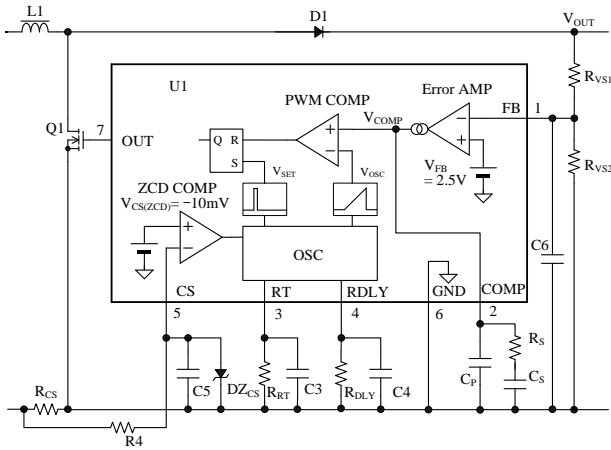

Figure 9-1 The IC peripheral circuit.
Figure 9-1 shows the IC peripheral circuit.
$R_{DLY}$  shown in Figure 9-1 is for the adjustment of the turn-on delay time,  $t_{DLY}$ , of the Power MOSFET. As shown in Section 8.5 Zero Current Detection, adjust the value of  $R_{DLY}$  and turn-on timing to the bottom point of  $V_{DS}$  free oscillation waveform on actual operation in the application. The range of  $R_{DLY}$  is 15 k $\Omega$  to 56 k $\Omega$ .
$R_{CS}$  shown in Figure 9-1 is current sensing resistor.  $R_{CS}$  is calculated by the following Equation (7), where Overcurrent Protection Threshold Voltage  $V_{CS(OC)}$  is - 0.60 V and  $I_{LP}$  is calculated by Equation (1).